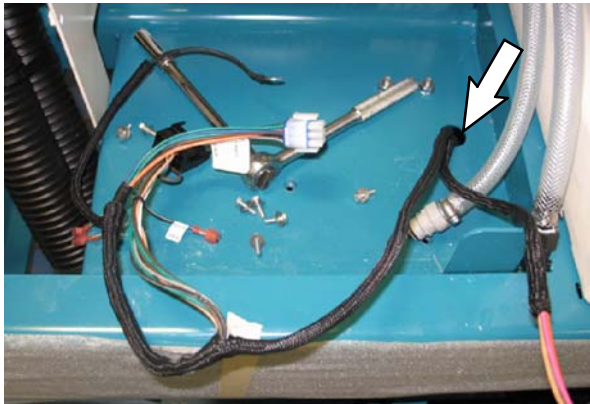

FIG. 7
9. Route the end of the *ec-H2O* harness with the diode through the hole in the frame of the machine and to the water valve attached to the scrub head. Refer to Fig. 7.